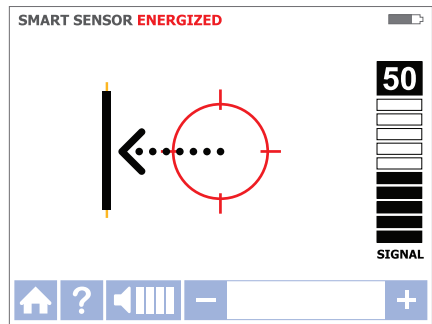

Figure 3.1d
4. Move the Receiver in direction indicated by the arrow on the screen (see Figure 3.1d)